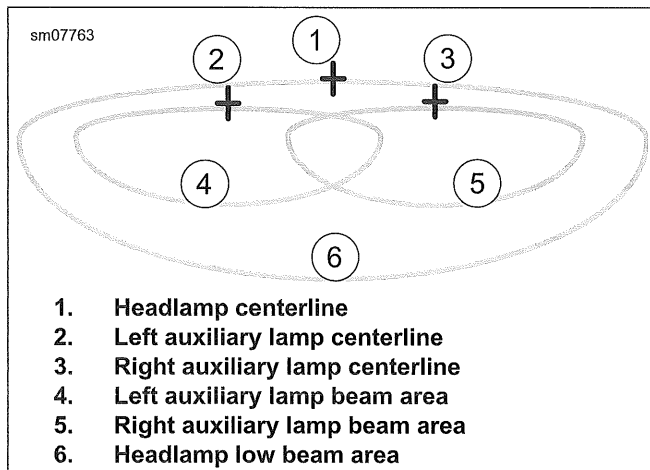

Figure 7-64. Headlamp Pattern: LED Type with Auxiliary Lamps
- See Figure 7-64. Mark the center of the headlamp high beam by making a vertical line through the horizontal line already drawn on the wall. Properly adjusted, the beam should project an equal area of light to the left and right of the vertical centerline (1).